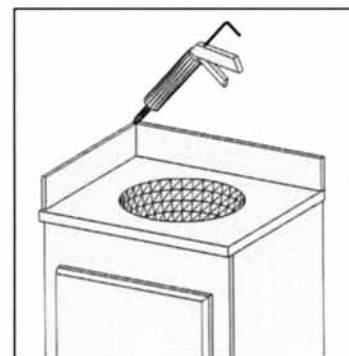

Figure 3
11. Apply a thin bead of caulk around all of the joints, such as the one between the top of the back splash and the wall, the side splash and the wall, the vanity top and the back splash, and the vanity top and the side splash. See *Figure 3*.